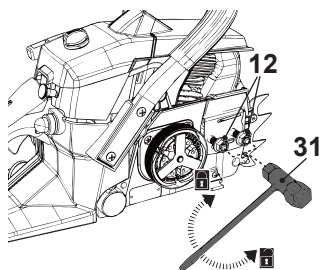

Fig. 1
2. Loosen the retaining nuts (12) with the multi-tool (31) and remove them (Fig. 1).